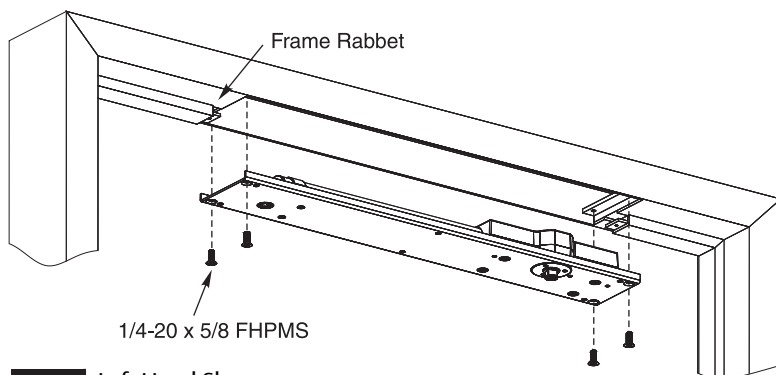

Figure 3 Left Hand Shown
1. Install closer in prepped frame with four (4)  $1/4-20 \times 5/8"$  FHPMS mounting screws provided. (Figure 3)